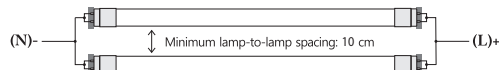
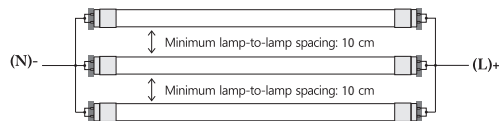
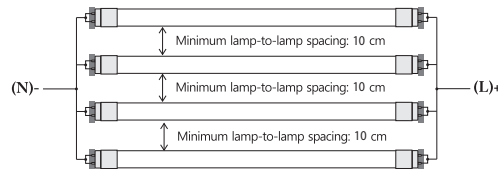

Figure 7
Figure 8
Figure 9
For light fixture with maximum 4 lamps , simply connect all the black leads (ungrounded leads ) from each Lampholders to the line side (L) of the supply circuit and connect all white leads (grounded leads ) from each lampholders to the neutral side (N) of the supply circuit . See Figure 7 and Figure 8 and Figure 9 for 2 lamps and 3 lamps and 4 lamps connection in details , respectively.